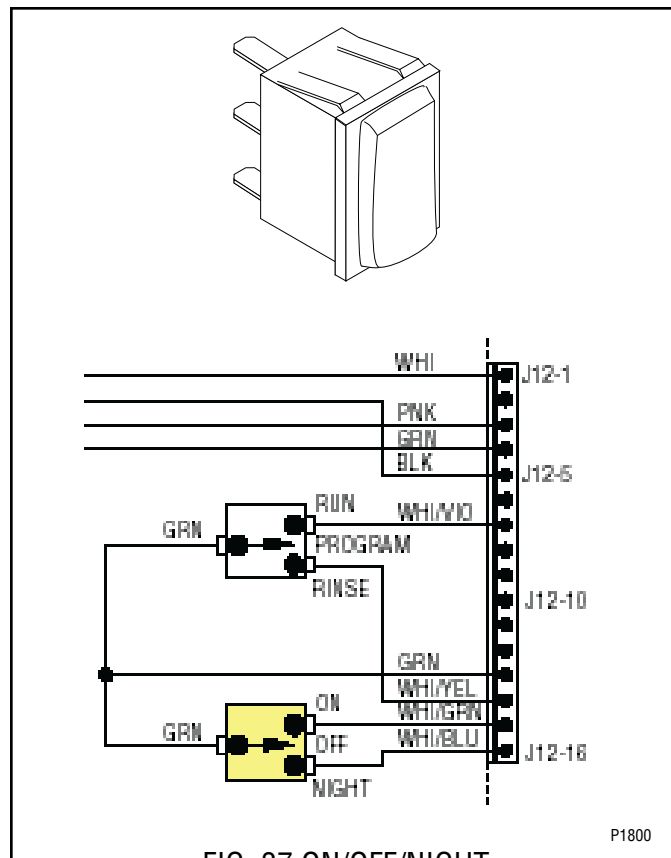

FIG. 37 ON/OFF/NIGHT SWITCH TERMINALS
4. Refer to Fig. 37 when reconnecting the wires.